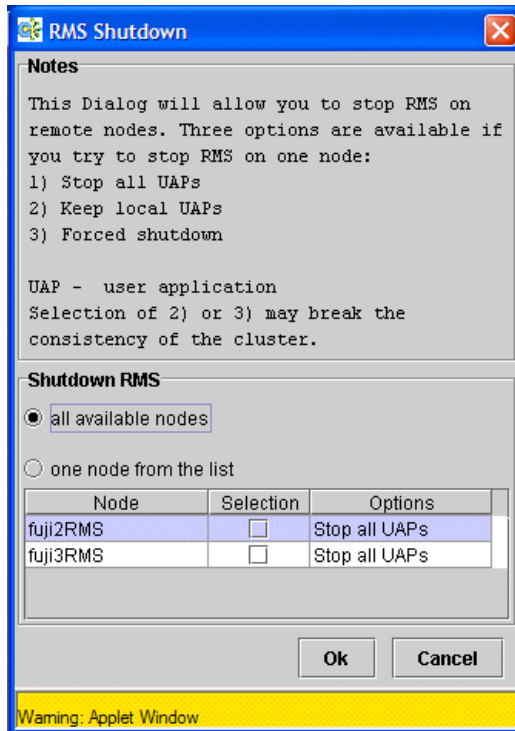

Figure 85: Stopping RMS on all available nodes
2. Select the radio button for *all available nodes* and click *Ok* to shutdown RMS on all nodes (see Figure 85).